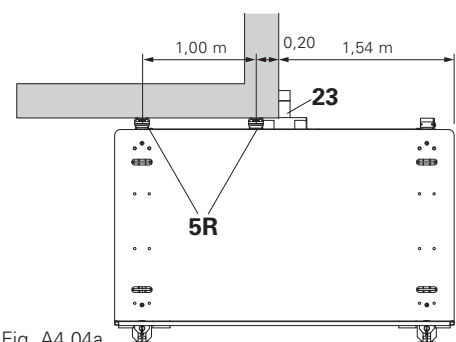

Fig. A4.04a
- Mounting Heads (5) in position (5R). (Fig. A4.04a)